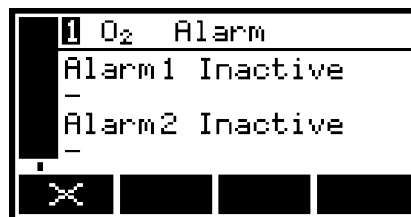

Figure 30: The Alarm status screen
2. With the "View" option highlighted, press the  soft key. The Alarm status screen will then be displayed (see Figure 30).
In the Alarm status screen shown in Figure 30, both measurement alarms are shown as "Inactive"; that is, either the mode of each alarm is set to 'none', or no alarm condition currently exists.